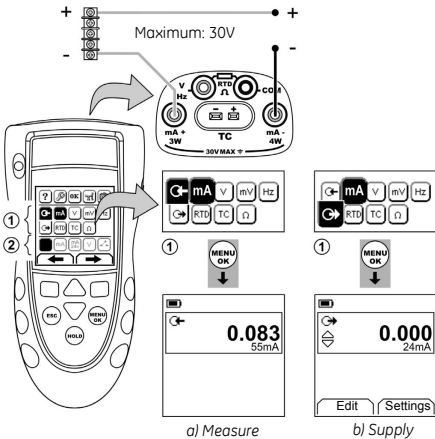

Figure 1: Example configuration - To measure/supply mA with external loop power (Area 1)
- 1. Connect the instrument (Figure 1, 2 or 3) and, if necessary, adjust the Set Up (Table 1).